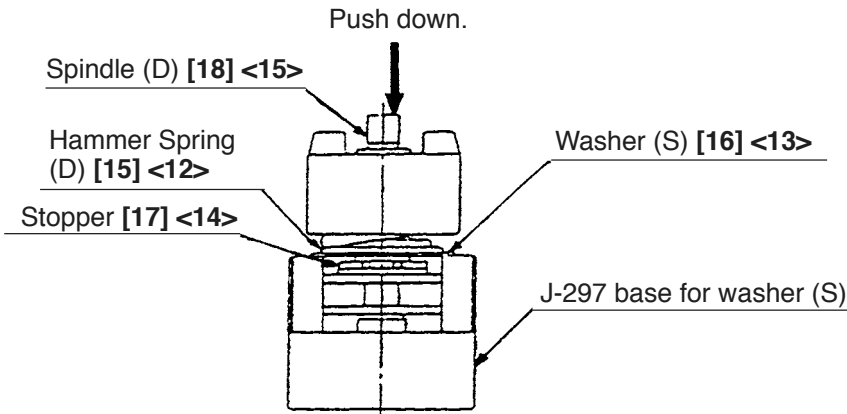

Fig. 9
With a hand press, push down the top of Spindle (D) [18] <15> to compress Hammer Spring (D) [15] <12>. In this position, remove the Stopper [17] <14> with a small flat-blade screwdriver, then release the hand press. (See Fig. 9.)